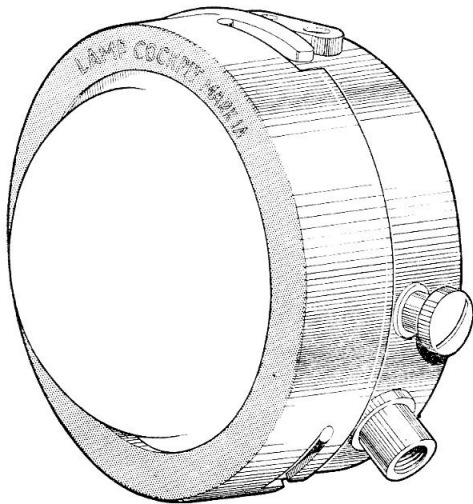

Fig. 1. Cockpit lamp, Mk. 1A
3. The cockpit lamp, Mk. 1A (*fig 1*), has a domed front of opal glass, secured by a bezel ring. A switch is incorporated in the lamp, and a socket is fitted in the top of the case for supplying an inspection lamp or similar circuit.